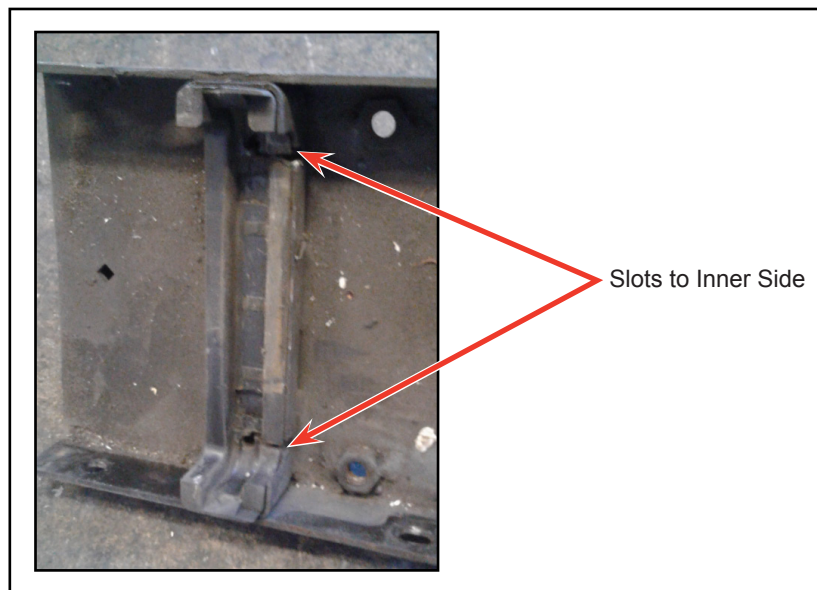

Figure 10 - Typical View of Rubber Pad Installation
- 1.28. If pads fall off, take care to reinstall them accordingly. Outer pads must have their slots facing toward inner side (see Figure 10).